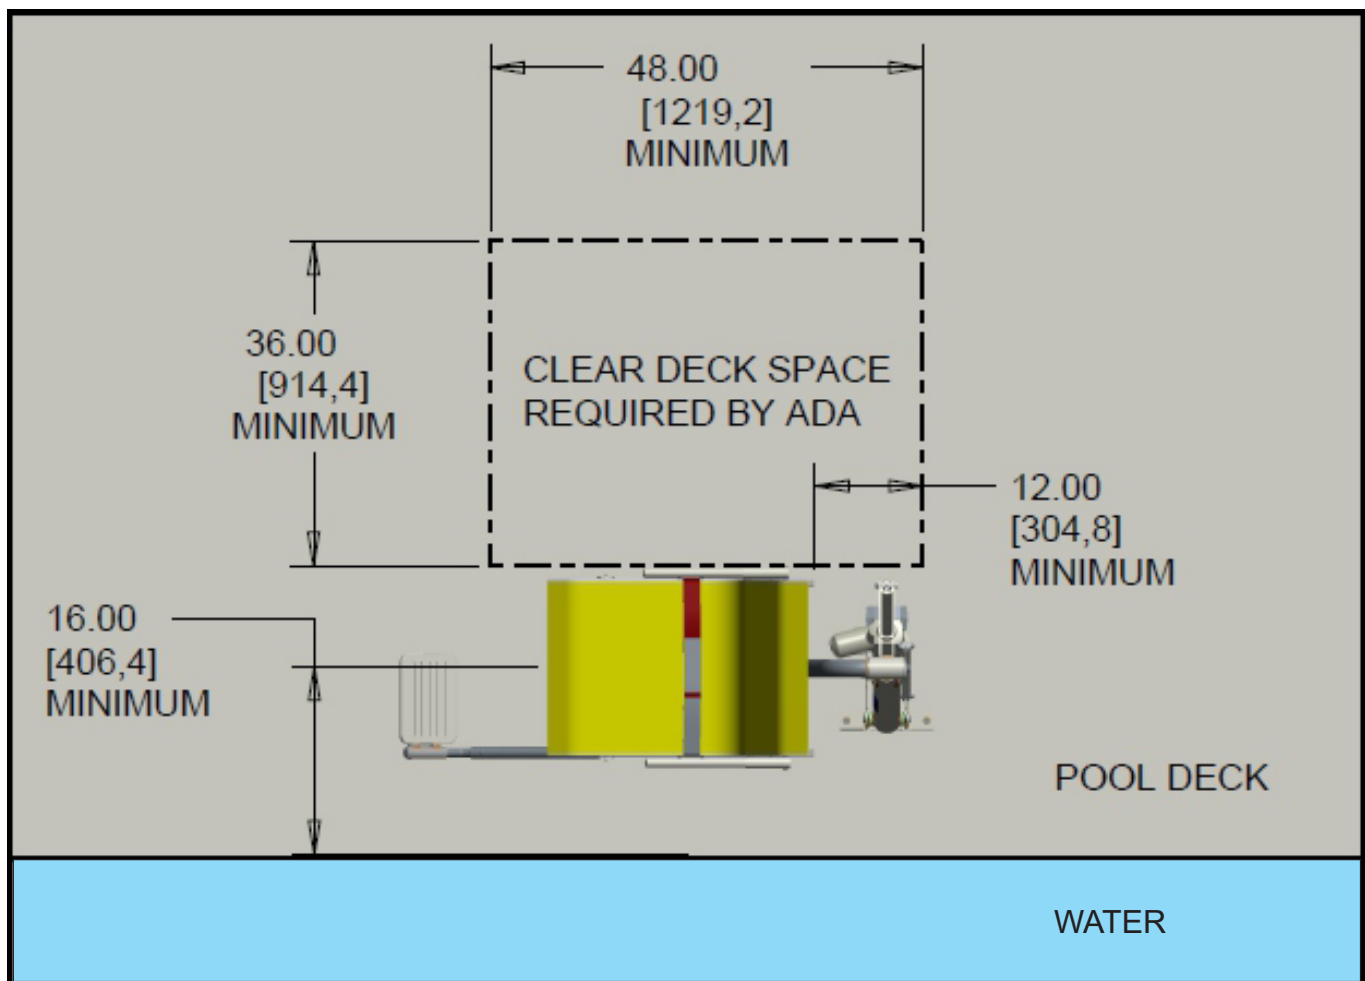

Fig 1: ADA Deck Requirement
Before installing the AmeriGlide Pool Lift it is necessary to select the correct location for the Mounting Base. The AmeriGlide Pool Lift can be installed in a wide variety of locations, but the owner and installer should be aware of the regulations set forth by the Americans with Disabilities Act (ADA) with concern to lift installations. Fig. 1 below, shows an example of an ADA compliant installation, which incorporates the following ADA rules in order to be compliant;
- 1 To determine the proper area to install the lift, follow the ADA guidelines, Fig. 1.
- 1 To determine the proper area to install the lift, Follow the ADA guidelines, Fig. 1.